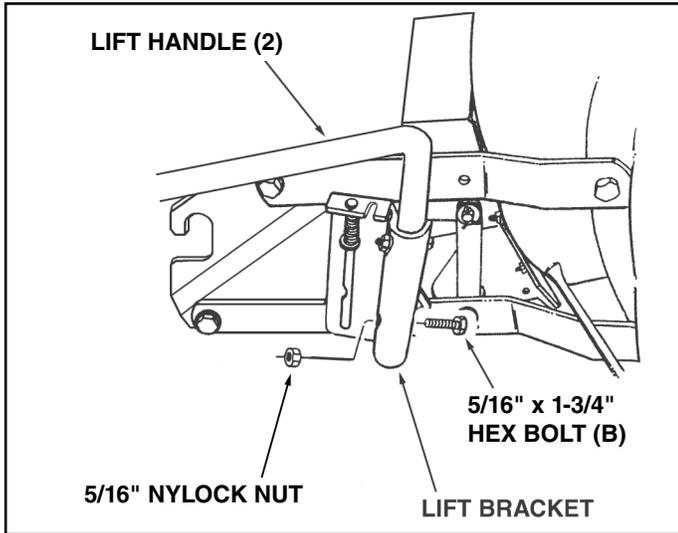

FIGURE 47 RIGHT SIDE VIEW
STEP 48: (SEE FIGURE 47)
- Place the lift handle (2) into the lift bracket on the right side of the snow thrower. Fasten the handle to the bracket using two 5/16" x 1-3/4" hex bolts (B) and 5/16" nylock nuts (Y).